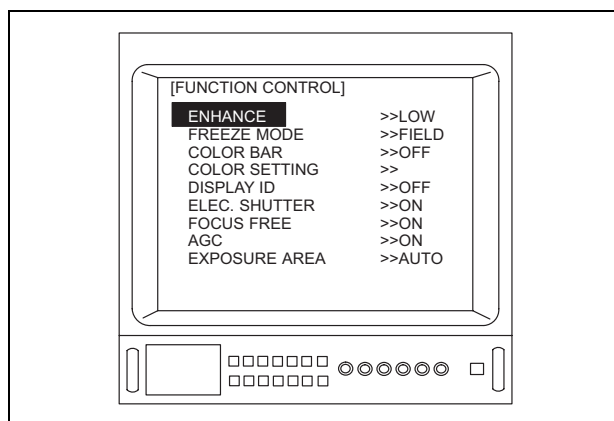

Figure 5.41
5. Depress the menu switch “” or the “Enter” key on the keyboard to adjust the image enhancement level (see Figure 5.41).